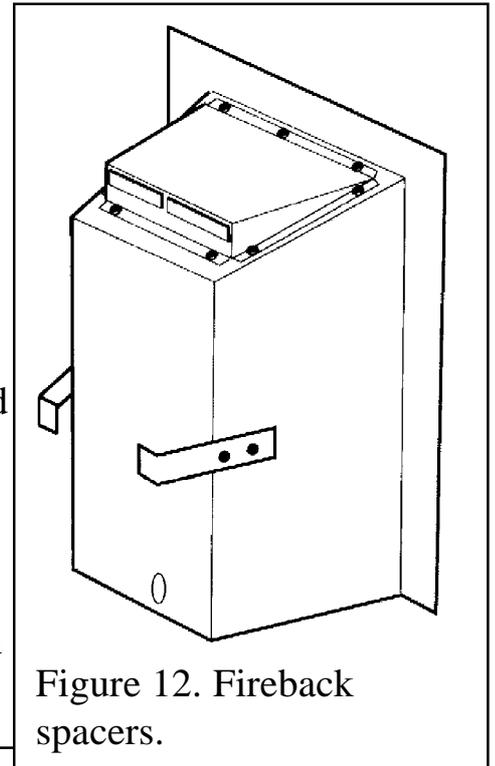

Figure 12. Fireback spacers.
3.2.2. These should extend backwards to ensure sufficient clearance from the back of the fireplace. Remove the label and retaining screws from the rear sides of the convection box. Position the fireback spacer as shown in figure 12. Secure the fireback spacers using the screws removed previously and the two supplied with the fire.